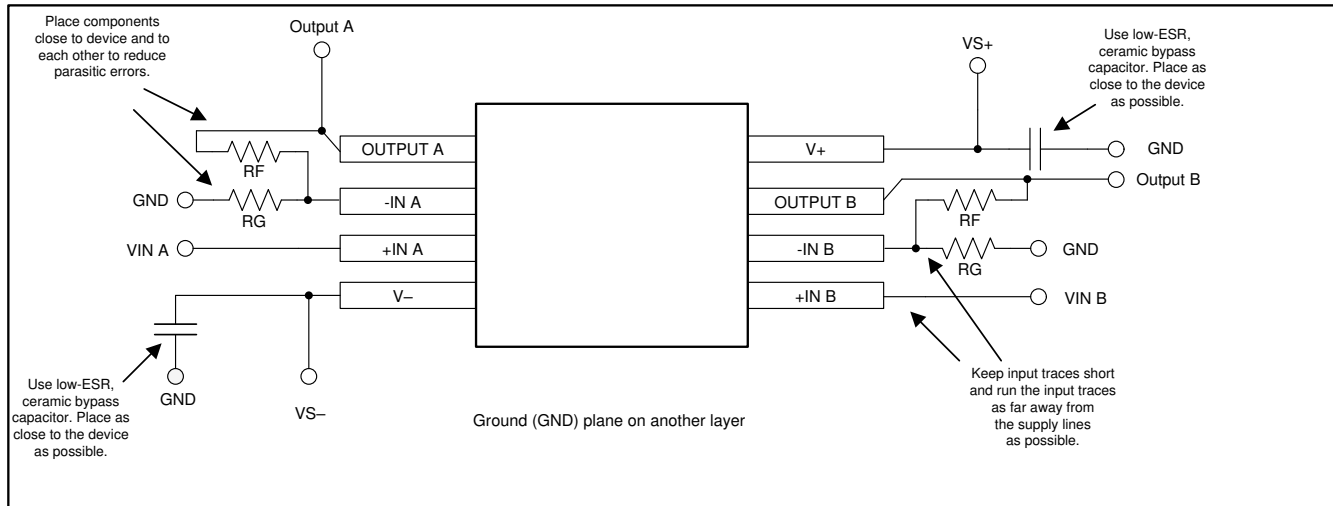

Figure 8-13. Operational Amplifier Board Layout for Noninverting Configuration
- Place the external components as close to the device as possible. As illustrated in Figure 8-13, keeping R_F and R_G close to the inverting input minimizes parasitic capacitance.